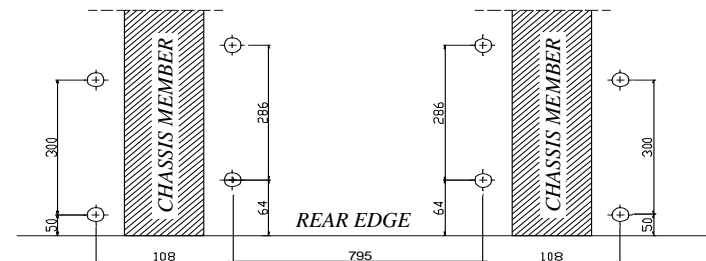

Fig. 1. Underneath view after bumper disassembly.
2. Underneath the car mark points according to figure 1. Next drill holes using bit $\varnothing 11$ mm, make very carefully.
3. Inside the trunk put suitable upper fish-plates (pos.8).
4. Underneath the car put side brackets (pos. 4 and 5) and through holes (pos. A) and fish-plates (pos. 8) fix using bolts M10x35mm (pos. 11).
5. Underneath the car put fish-plates (pos. 6 and 7), next through holes (pos. B) and fish-plates (pos. 8) fix using bolts M10x35mm (pos. 11) .
6. Through holes (pos. C) fix main bar of the towbar (pos. 1) with side brackets using bolts M12x35mm (pos. 10).
9. Fix tow-ball (pos. 2) and socket plate (pos. 3) by bolts M12x75mm (pos. 7) from accessories.